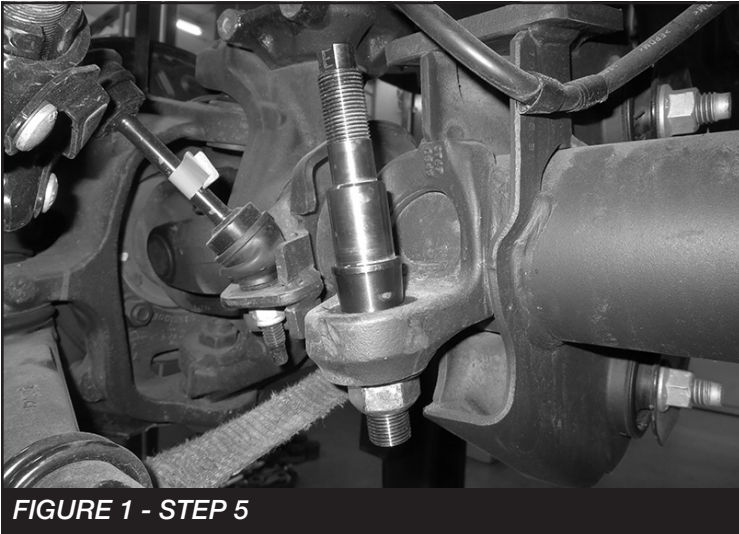

FIGURE 1 - STEP 5
5. Install FT94510 (Pin) into the factory track bar axle mount location using the supplied 3/4" washer & nut. Torque to 297 ft-lbs. **SEE FIGURE 1**